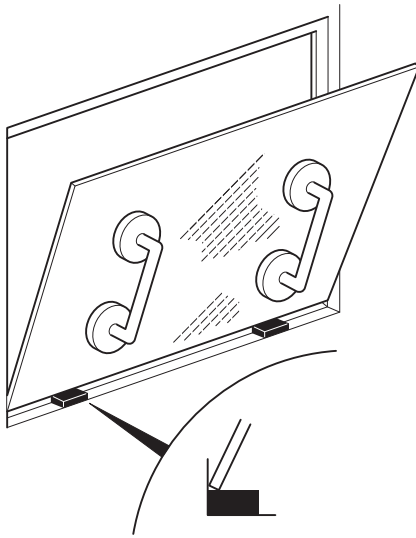

Fig 17.
- b Sit the bottom edge of the glass on the spacer blocks. ⇒ Fig 17. \(□ 1-12\)